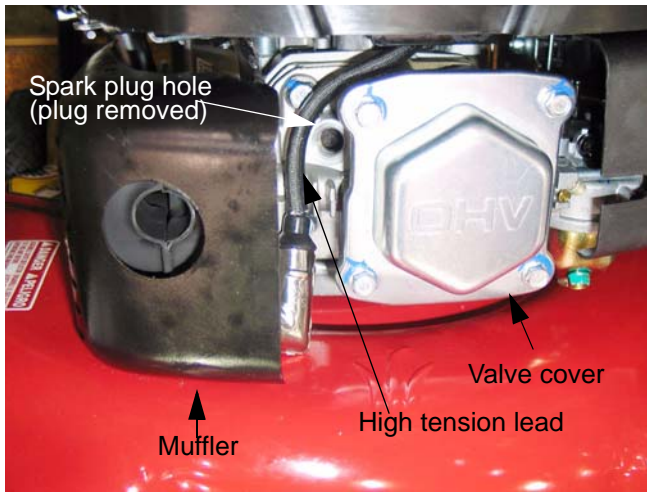

Figure 2.9
3. Remove the spark plug using a 13/16" or 21mm wrench. A flexible coupling or "wobbly" extension may help. See Figure 2.9.